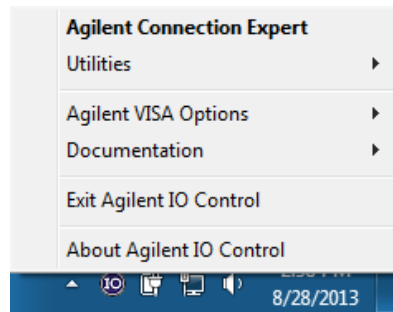

Figure 2 About Keysight IO Control
- 1 To check the version of your pre-installed IO Libraries Suite, right-click the IO Control icon on your taskbar notification area and select **About Keysight IO Control** as shown in Figure 2.